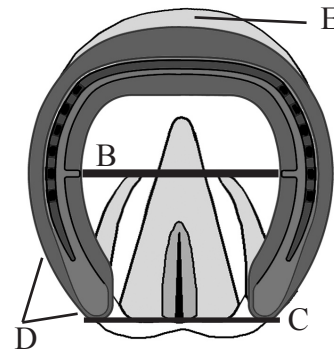
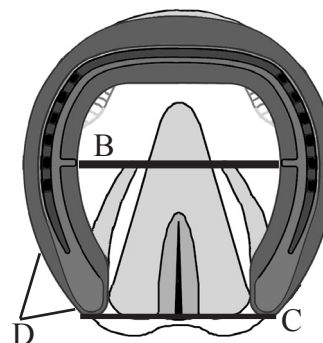

Fig. 5 [Distorted Foot]
Fig. 6 [Non-Distorted Foot]
13. When shaping, fitting and attaching the Centre Fit shoe, the follow guidelines should be met. (Figure 5 [Distorted Foot] & Figure 6 [Non-Distorted Foot])
14. Since you have already dressed the wall prior to applying shoes, there is very little rasping that should be required on the dorsal wall, aside from finishing your clinches. However, if there is any wall extending ahead of the shoe, simply angle your rasp at a 15° to 25° degree angle (about the same as the roll in the shoe), and slightly undercut the amount hanging over. (Figure 5-F) DO NOT attempt to take the dorsal wall back to the shoe's perimeter in a vertical manner. This will weaken the dorsal wall and can cause instability within the hoof capsule.